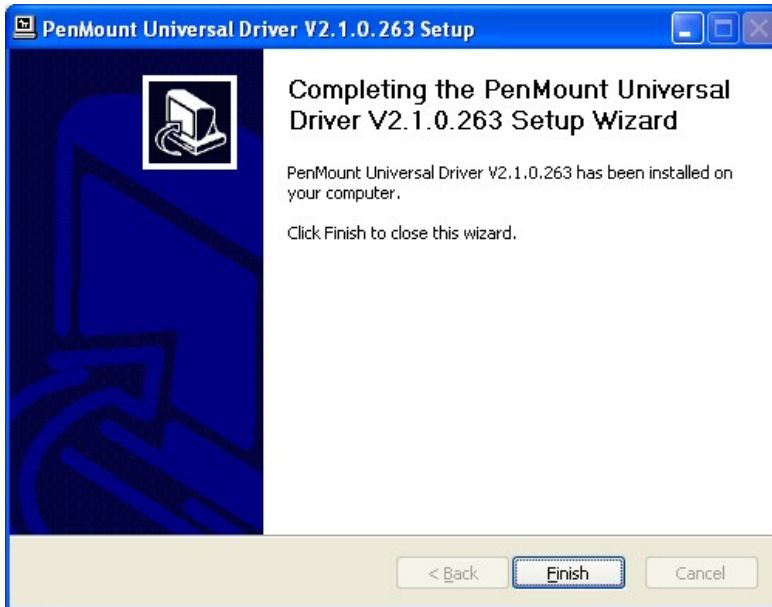

Figure 6-22: Touchscreen Driver Update Complete
Step 12: When the installation is complete, click **FINISH** to exit setup. (Figure 6-22).